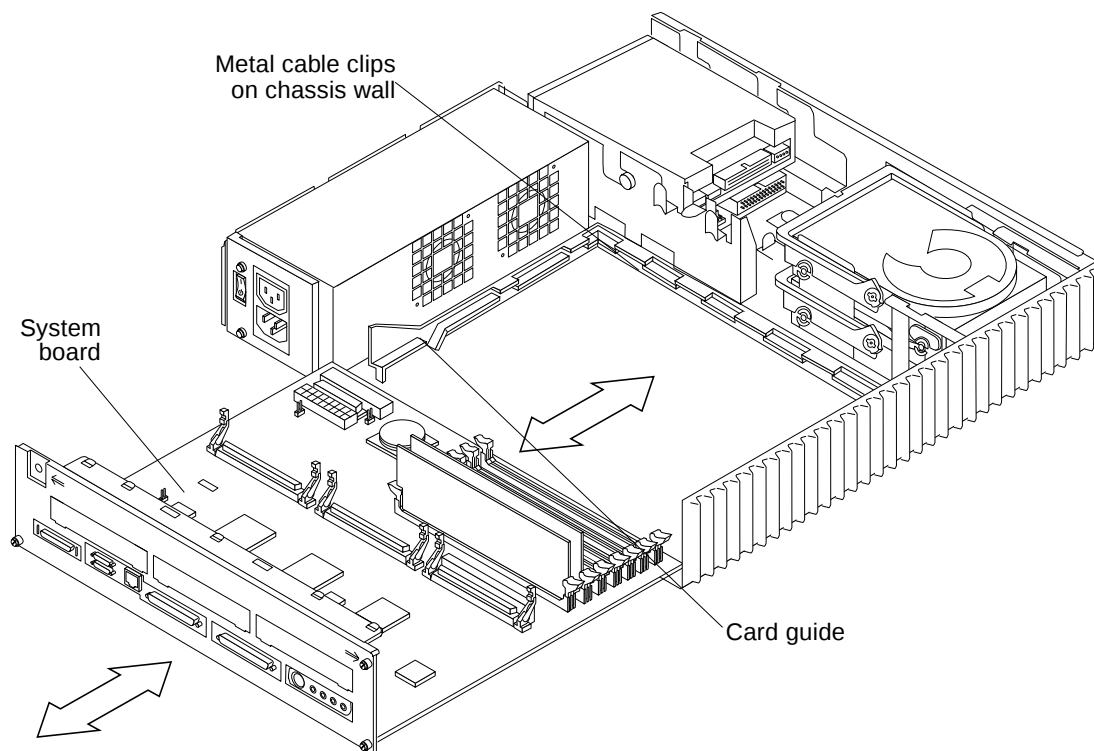

FIGURE 8-34 Removing the System Board
- 4. Position the system board into place and tighten the two captive screws on the back panel that secure the system board to the chassis (FIGURE 8-34).**
- 4. Loosen the two captive Phillips-head screws that secure the system board to the rear chassis (FIGURE 8-34).**
- 5. Pull the system board from the back of the chassis until it clears the plastic card guide (FIGURE 8-34).**